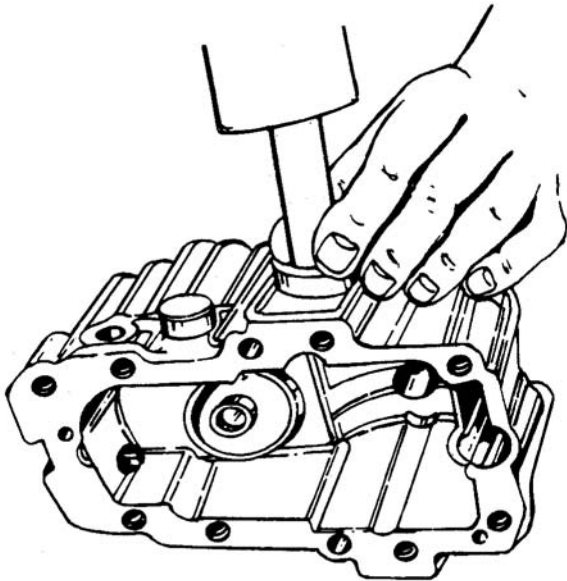

Figure 6-30. Pressing Out Journal Bearing
- g. Press out journal bearing with soft hammer. See Figure 6-30.